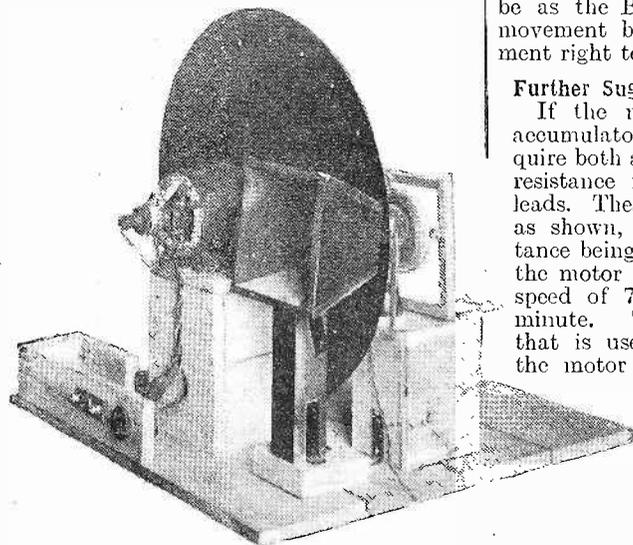

Fig. 3.—A good amateur effort of building disc television apparatus from rather crude materials.
Fig. 3 will make clear the methods used in connecting the wavemeter to the receiver.
- Drill and mount as in Fig. 6 in back of wavemeter, and back of detector end of receiver cabinet, wired to coupling coil, Fig. 3.
Fix slow-motion dial in place, and then wire up the tuning condenser, fixed condenser, and coil base and sockets, as shown in Fig. 3. Screw on bottom of cabinet and the wavemeter is complete.
By referring to Fig. 3 the reader will obtain a very fair impression of how a machine of